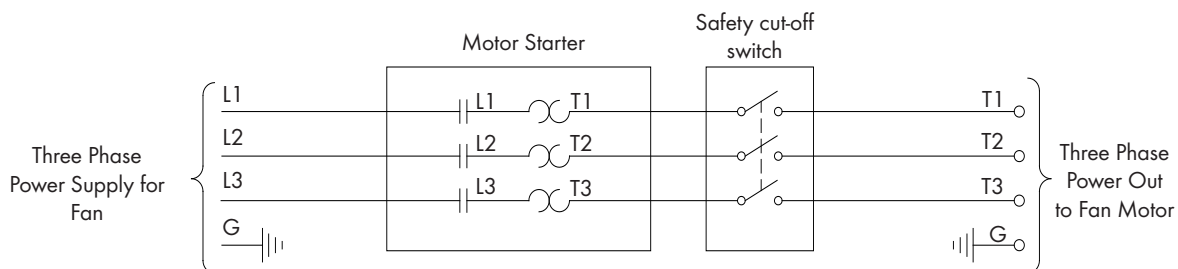

Figure 30B
**Three Phase Fans:** motor overload protection should be provided for each fan. A three-pole motor starter or slow blow motor fuses must be used. *See Figure 30B.*